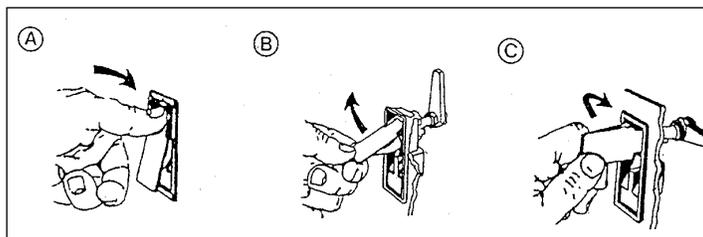

Figure 6 - Release the side inspection panel catch
1. Press in the top of the catch at the top-center of the right-hand panel (see Figure 6, detail A).
2. Lift the lever of the catch to release the locking bar (see Figure 6, detail B).
3. Turn the lever clockwise through 90° to open the lock (see Figure 6, detail C).